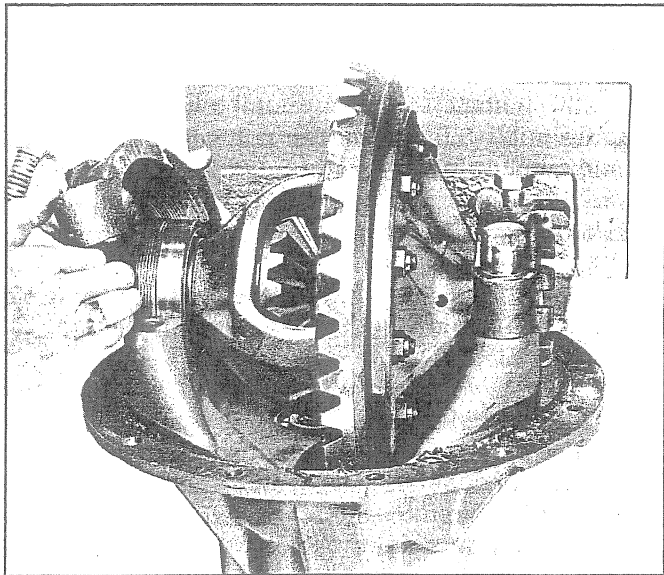

Fig. 106 - Removing Bearing Cap
4. Cut lockwire -- then remove bolts and bearing caps. See Fig. 106.